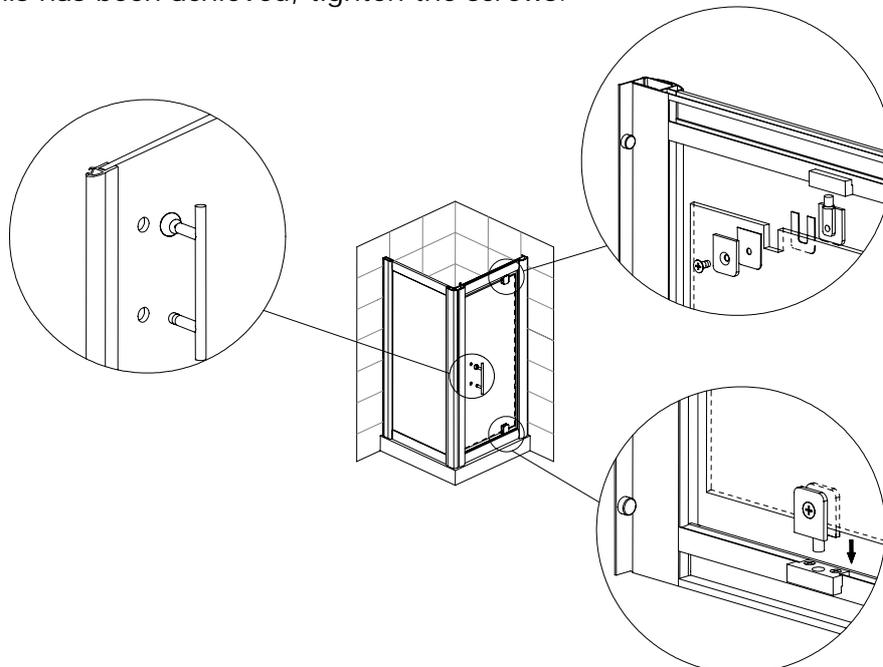

Figure 9
9. Install the handle (12) on the pivot door (11) as shown in figure 9 left.
10. Erect the pivot door (11), insert the lower pivot part (15) into the bottom rail profile (1). Hold the door vertically, insert the top pivot part (15) into the frame then assemble the rest of the pivot as shown in figure 9.
11. Loosen the screws in the top and bottom pivot hinges (15), align the door (11) to ensure a smooth opening, with a watertight seal when closed. Once this has been achieved, tighten the screws.